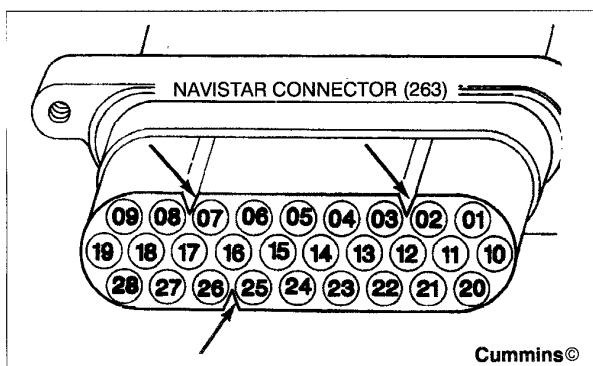

Figure 85 Make Sure Connector "Keys" Are Correct
6. Select the correct AMP replacement connector (International Part No. 1663985C1 or Cummins Part No. 3048603). Make sure the connector "keys" are correct (Figure 85).